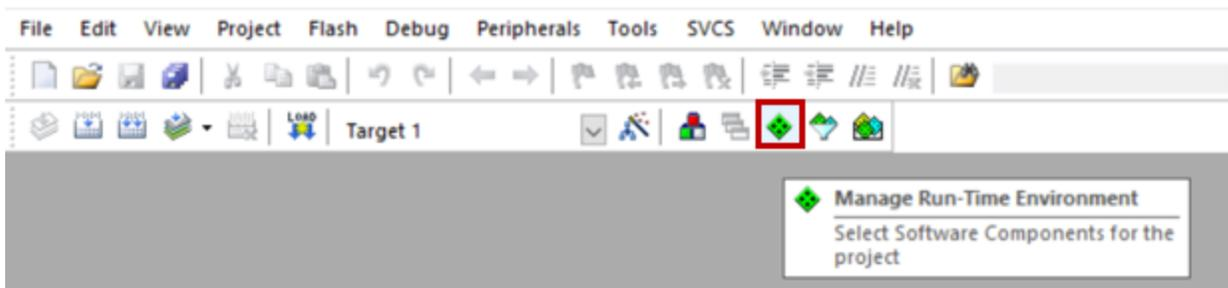

Figure 51. Keil's Manage Run-Time Environment Icon
1. To open component-specific documentation in Keil μ Vision, you first need to click on the **Manage Run-Time Environment** icon (see the "Keil's Manage Run-Time Environment Icon" figure (Figure 51)).